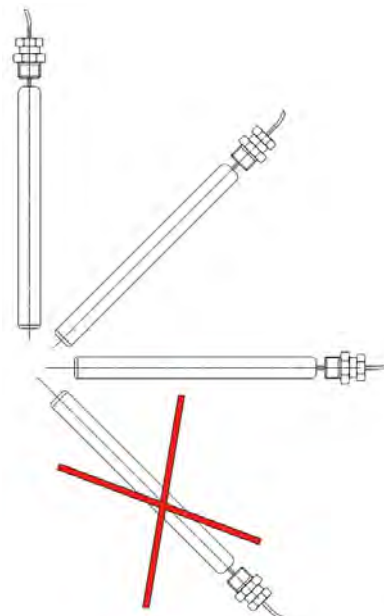

Fig 2
- Sensor must be orientated as shown in fig.2.